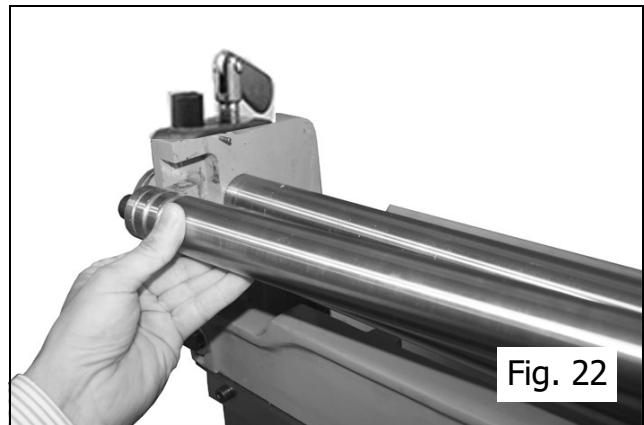

Fig. 22
2. Protect your hands from the sharp edges of the workpiece, then grasp the top roller and use moderate force to pull it forward, as shown in Figure 22.